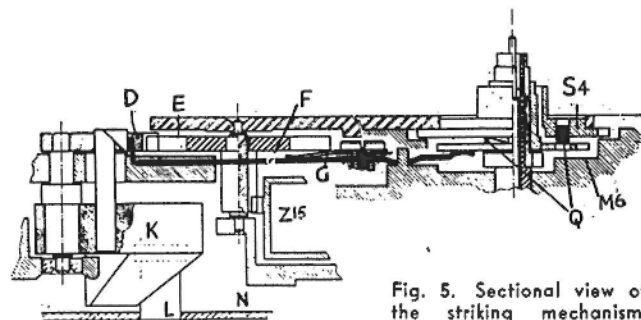

Fig. 5. Sectional view of the striking mechanism.
fact, the position 1-III is the normal position of the control knobs when it is desired to have the alarm ring. It can be seen, in the sectional view (Fig. 5) that the lugs (Q) on discharging wheel (S4) and the three corresponding notches in the hour wheel (M6) maintain strict alignment of the wheels. Setting the alarm causes the discharging wheel (S4) and the lugs (Q) to be set in the selected position. Until the hour for which the alarm has been set is reached, the notches in the hour wheel (M6)
are made to slide under the lugs of the unlocking wheel (S4). They nest into each other at the time provided for by setting the alarm. This allows the hour wheel to slide along the cannon-pinion (under the action of disconnector spring (G) and permits the disconnecting lever (F) to swing and clear its hook-shaped end from the alarm hammer lever (D) which then vibrates under the action of the star wheel (E). The sectional view (Fig. 5) also shows